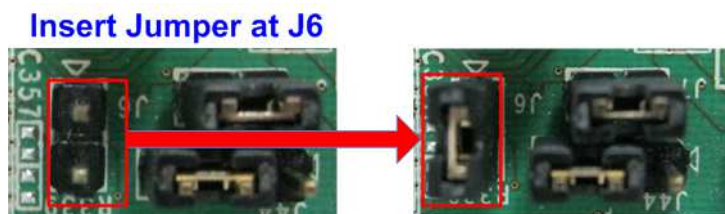

Figure 4-2 Insert jumper to enable SFP+ on KCU105
- b) Board setting on KCU105 board is shown in Figure 4-2. Insert jumper to J6 to enable Tx SFP+.